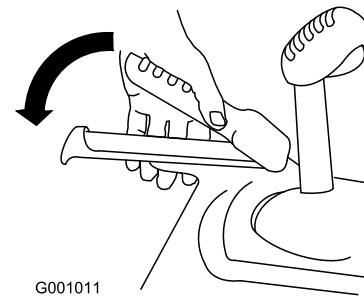

Figure 24
1. To engage the traction drive, squeeze the left (traction) lever to the handgrip (Figure 24).